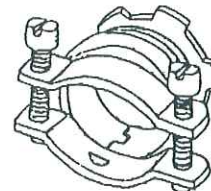

Figure A12
5. Install U.L. approved strain relief (3/4" nonmetallic conduit connector is recommended) in entry hole on back panel (Figure A12).